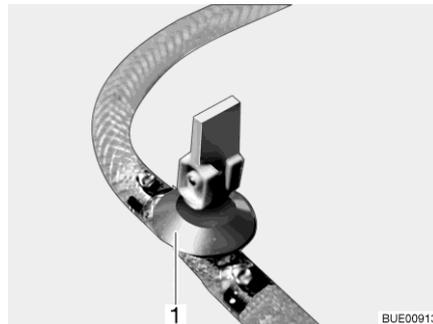
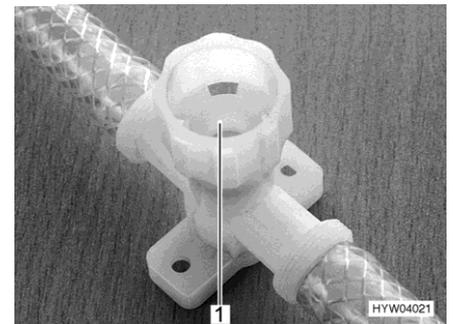

Fig. 171 Drain cock (with rocking lever)
Fig. 172 Drain cock (with twist cap)
- Close all drain cocks. To do this, position the drain cock's rocking lever (Fig. 171,1) horizontally or turn the drain cock's cap (Fig. 172,1) in a clockwise direction.